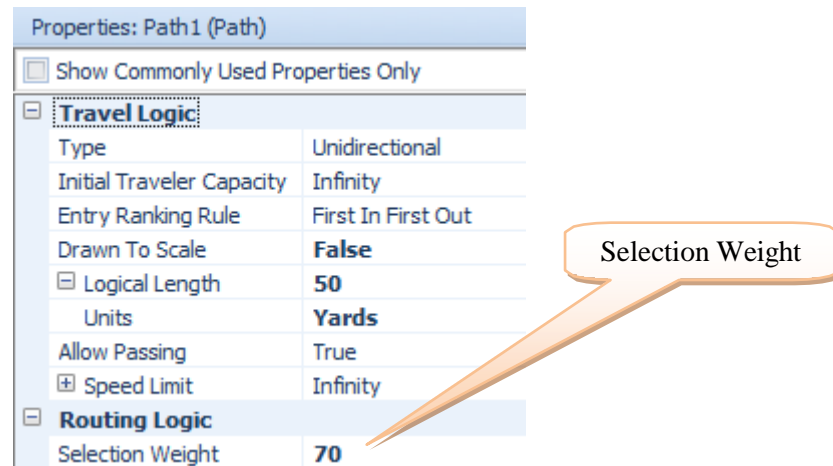

Figure 4.3: Weighting Paths
Step 4: To model the decision of a passenger to choose their check-in route the Selection Weight property of Path objects will be utilized. The probability of choosing a particular path is that path's individual selection weight divided by the sum of all path selection weights from that node object. Place the proper weights to each different check-in route (see Figure 4.3).